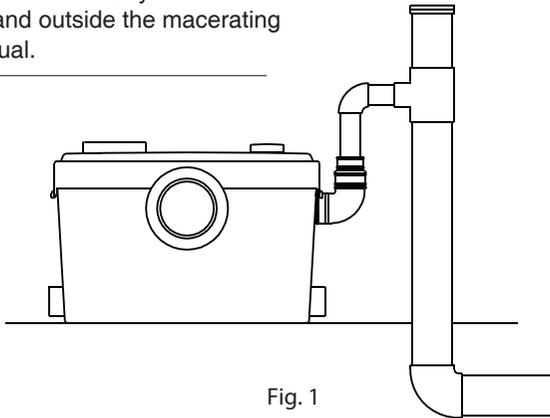

Fig. 1
- If the last pipe section after a horizontal discharge pipe is vertical, it must be two sizes bigger than the horizontal pipe. (Fig.1)